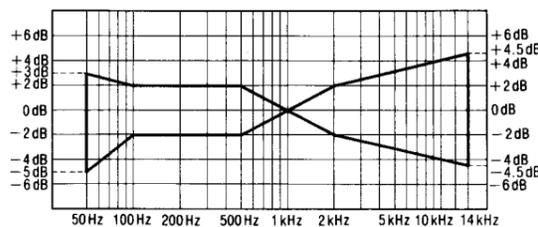

Fig. 9
6. After that increase the signal recorded on CrO_2 blank tape (QZZCRX) and metal blank tape (QZZCRZ) up to 14kHz and adjust in the same way as mentioned above and check that the frequency level is within the range shown in Fig. 9.
6. After that increase the signal recorded on CrO₂ blank tape (QZZCRX) and metal blank tape (QZZCRZ) up to 14kHz and adjust in the same way as mentioned above and check that the frequency level is within the range shown in Fig. 9.